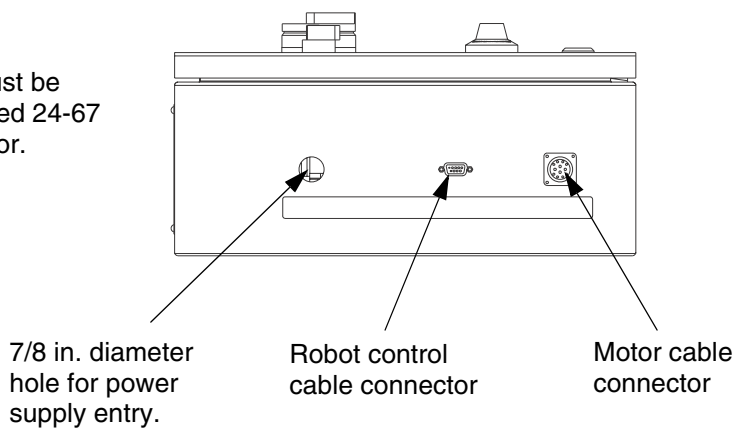

FIG. 4
2. Secure the PrecisionSwirl control assembly with four 1/4 in. bolts through the 0.31 in. diameter holes in the mounting flanges. See FIG. 4 for the mounting hole spacing in the control assembly.